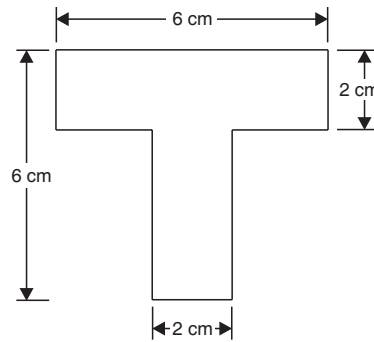

Fig. 5.19
**Example 5.2.** Calculate the moment of inertia about horizontal and vertical gravity axes ( $I_{xx}$  and  $I_{yy}$ ) of the section shown in Fig. 5.19.